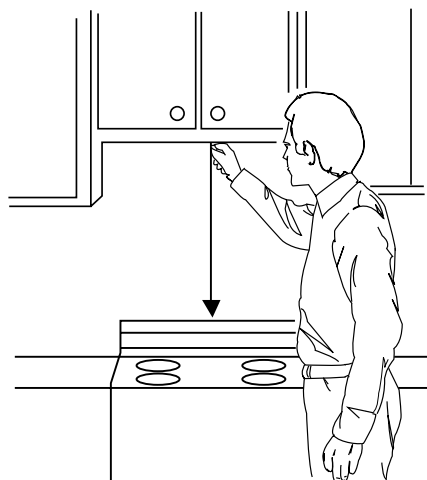

Figure 24
1. Using a plumb line and (metal) measuring tape, find and mark the vertical center line on the back wall, as in Figure 24.
4. Center rear wall template in operating by lining up the plumb line on wall with centerline on template. Then securely tape or tack the rear wall template in place. Make sure the minimum width is 30 inches and that the top of the rear wall template is located a minimum of 30 inches above the cooking surface. See Figure 24.
1. Center rear wall template in operating by lining up the plumb line on wall with centerline on template. Then securely tape or tack the rear wall template in place. Make sure the minimum width is 30 inches and that the top of the rear wall template is located a minimum of 30 inches above the cooking surface. See Figure 24.